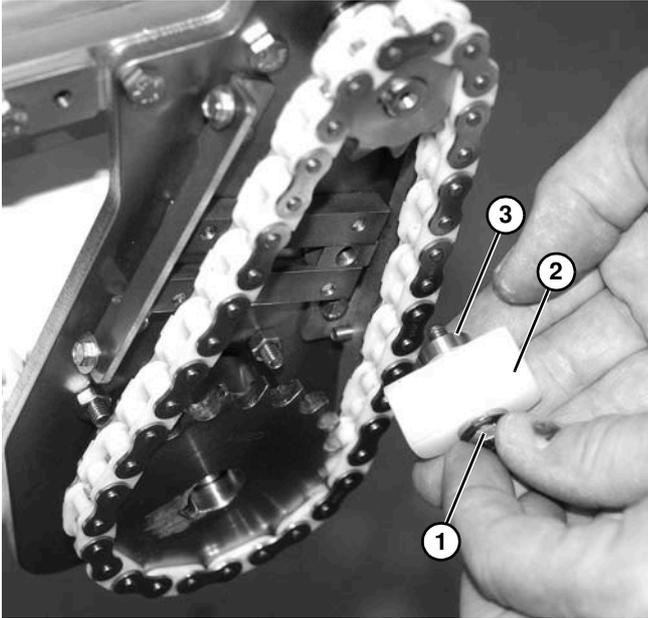

Figure 58
4. Remove screw and washer (Figure 58, item 1), timing chain tensioner (Figure 58, item 2), and spacer (Figure 58, item 3) from drive mounting bracket.